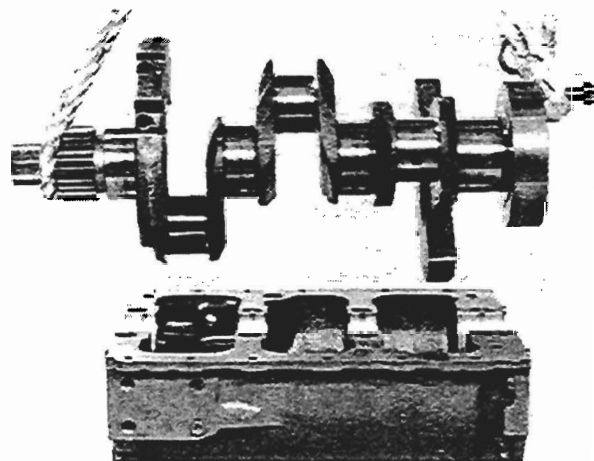

Fig. J5
9. Lift out the crankshaft (see fig. J5) and remove the top half main bearings. Make a mark on the bearings to ensure that they are fitted to their original positions.